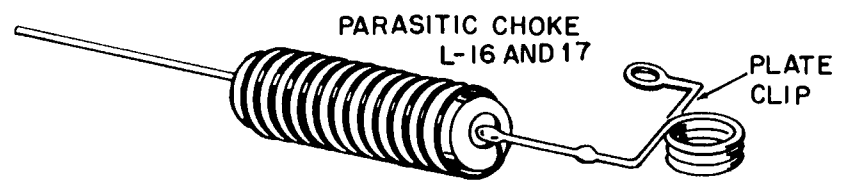

FIGURE 25. CHOKE PREPARATION
- L-16, parasitic choke (coil wound on a 2 watt resistor). Cut one lead so it is 1/2" long. Solder this lead to a plate clip as shown in Figure 25. Cut the other lead so it is 1" long. Connect this lead to the terminal of L-18. The plate clip will be connected later.